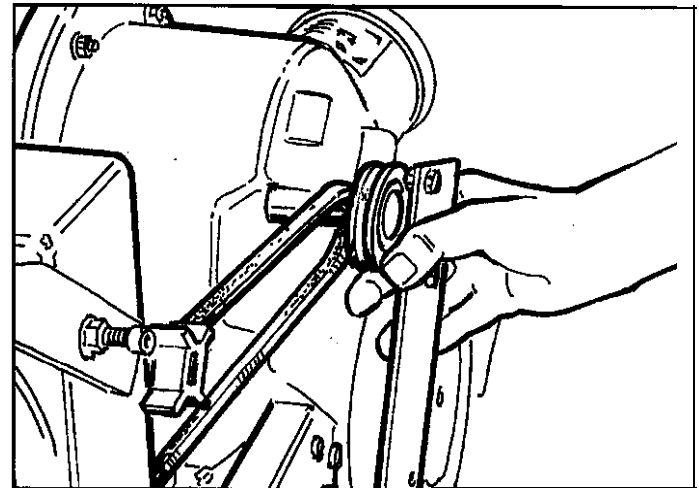

Figure 45. Loop Slack End Of Drive Belt Over Drive Shaft And On To Drive Pulley
8. Pull the slack end of the drive belt toward the front of the unit, and loop it over the drive pulley drive shaft as you place the drive pulley drive shaft into the vacuum nozzle housing shaft opening (Figure 45).